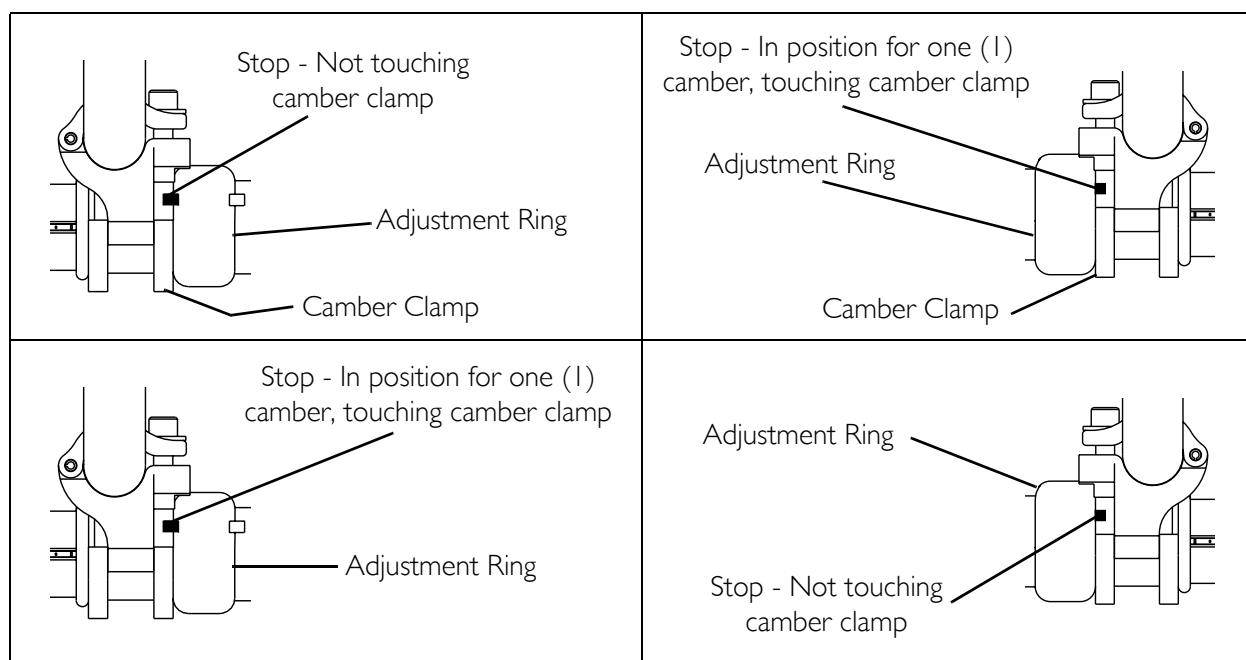

FIGURE 6.11 Adjusting Toe In/Toe Out - A4 Camber System - Course Adjustment.
NOTE: For this procedure, refer to FIGURE 6.11.
7. Rotate either the right or left adjustment ring until the stop on the ring is at the top of the slot in the camber clamp as shown in FIGURE 6.11 and securely tighten the phillips screw on the positioned adjustment ring.